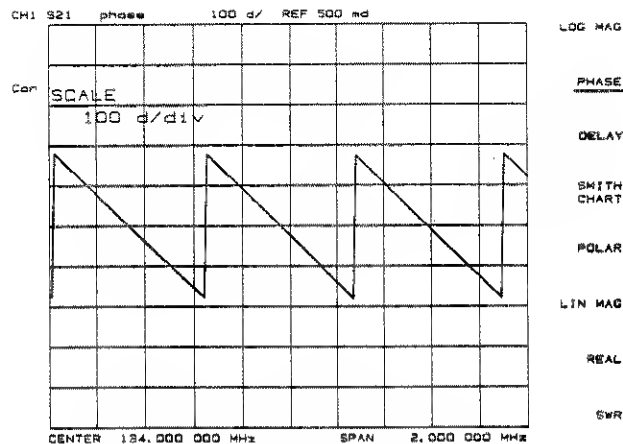

Figure 4-11. Phase Format
**[PHASE]** (PHAS) displays a Cartesian format of the phase portion of the data, measured in degrees. This format displays the phase shift versus frequency. Figure 4-11 illustrates the phase response of the same filter in a phase-only format. A measurement of phase response is described in the User's Guide.